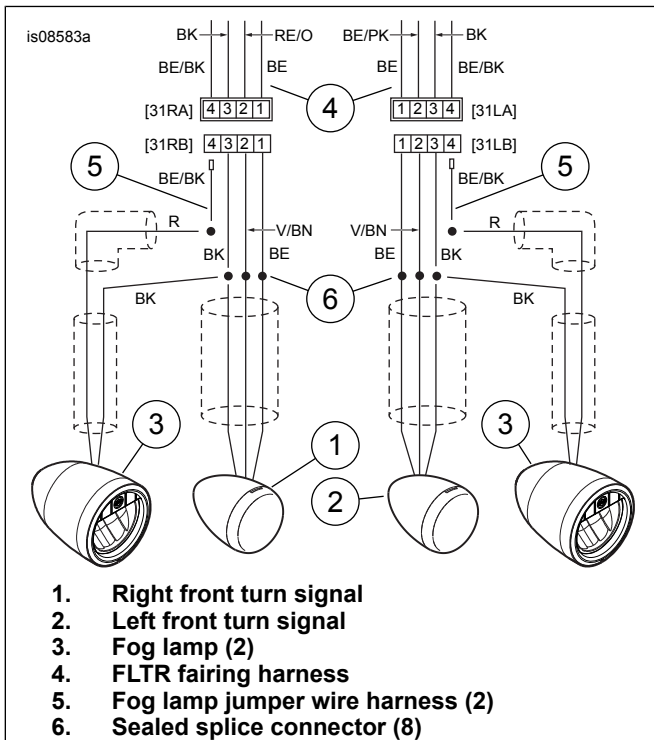

Figure 5. Wiring Diagram, Road Glide LED Bullet Fog Lamps
5. Use a sealed splice connector (11) from the kit to secure the (V/BN) connector wire to the (V/BN) wire from the turn signal. See Figure 5, Item 6. Use a second sealed splice connector to secure the (BE) connector wire to the (BE) wire from the turn signal. Leave the (BK) wires cut for now.
- b. Cut the (BK) wire inside the gap farthest from the fog lamp. Pull the excess (BK) wire from the end of the wire sleeve.
- c. See Figure 5. Use a sealed splice connector (6) from the kit to secure the (BK) fog lamp wire to the (BK) turn signal wires cut earlier.